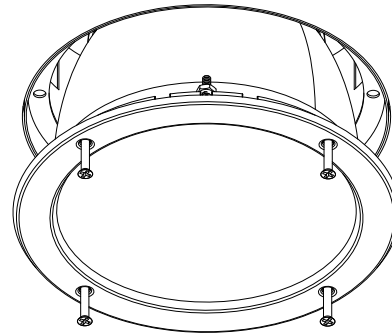

Figure 5
5. For trims with screws, insert the trim into the plaster ring and align the (4) trim mounting screws with the cage nuts in the plaster ring. Tighten to secure the trim. See Figure 5.